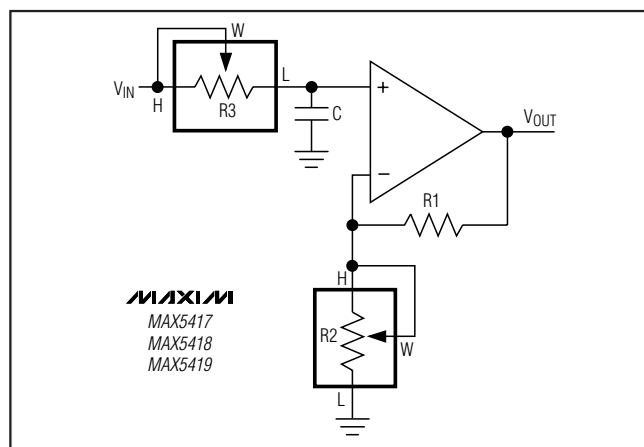

Figure 11. Programmable Filter
Figure 11 shows the configuration for a 1st-order programmable filter. The gain of the filter is adjusted by R2, and the cutoff frequency is adjusted by R3. Use the following equations to calculate the gain (G) and the 3dB cutoff frequency (f_c):